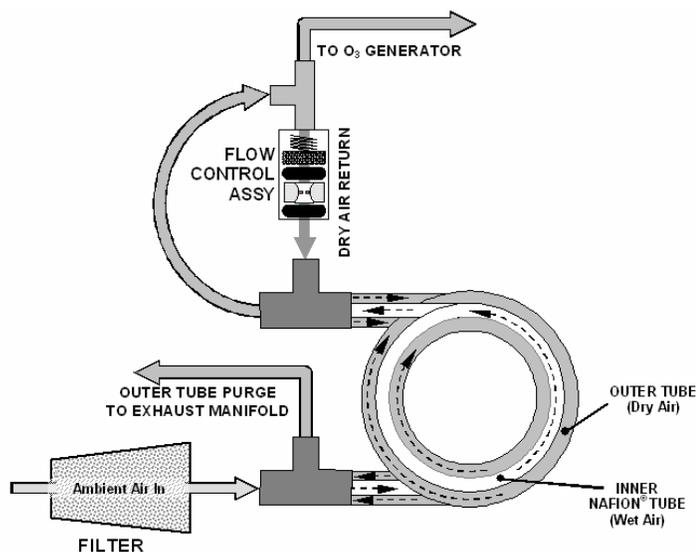

Figure 10-8: M9110E Perma Pure® Dryer
To provide a dry purge gas for the outer side of the Nafion tube, the M9110E returns some of the dried air from the inner tube to the outer tube (Figure 10-8). When the analyzer is first started, the humidity gradient between the inner and outer tubes is not very large and the dryer's efficiency is low at first but improves as this cycle reduces the moisture in the sample gas and settles at a minimum humidity.
- Permapure ozone air dryer, purge flow control (Figure 10-8)
- Permapure sample or combo dryer (if installed), purge flow control (Figure 10-8)